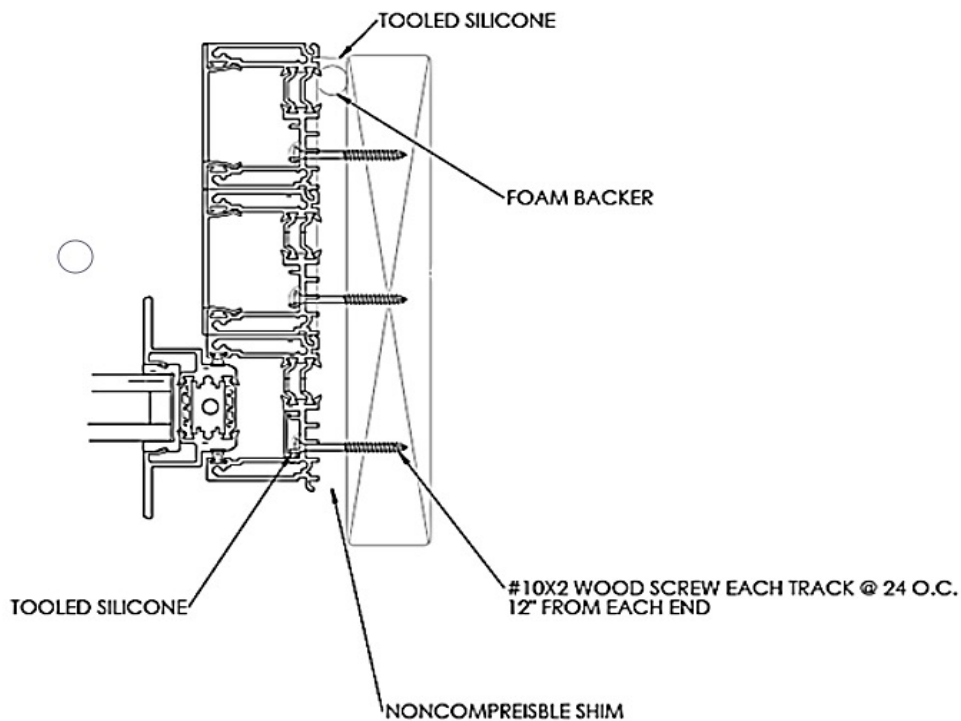

Figure 7
18. Shim the lock jamb/s as required to ensure they will be plumb and anchor to the structure through the additional holes using #10 X 2.5" flat head screws. See **Figure 7**.